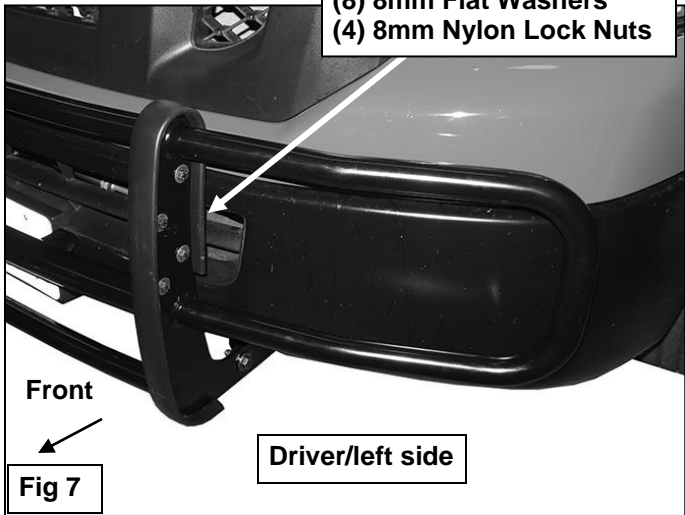

Fig 7
6. Next, select the driver side outer Wing. Attach the Wing to the Center Section with (4) 8mm x 30mm Hex Bolts, (8) 8mm Flat Washers and (4) 8mm Nylon Lock Nuts, **(Figure 7)**.